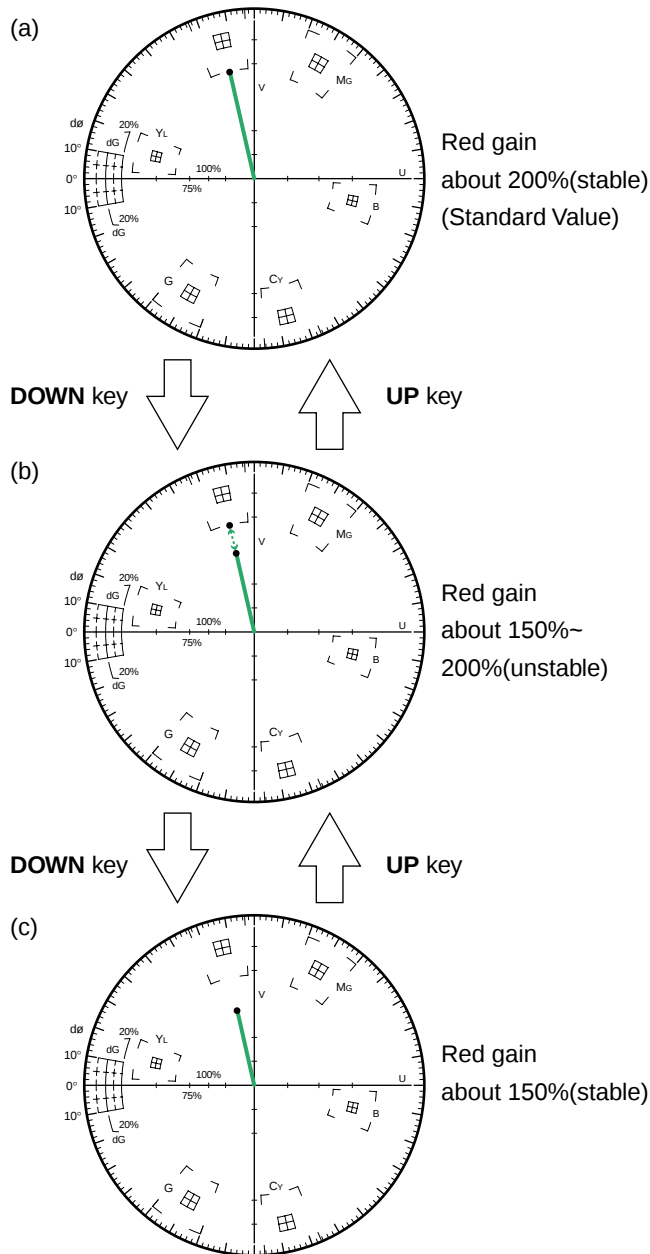

Fig. 4-8
- While observing the Vectorscope, decrease data so that the Red gain becomes unstable as shown in Fig. 4-8(b).
- After that, decrease data with the **DOWN** key again until the Red gain becomes stable at about 150% as shown in Fig. 4-8(c).
- Raise data with the **UP** key in turn until the Red gain becomes unstable, then raise data by 1 again so that Red gain becomes stable at about 200% as shown in Fig.4-8(a).